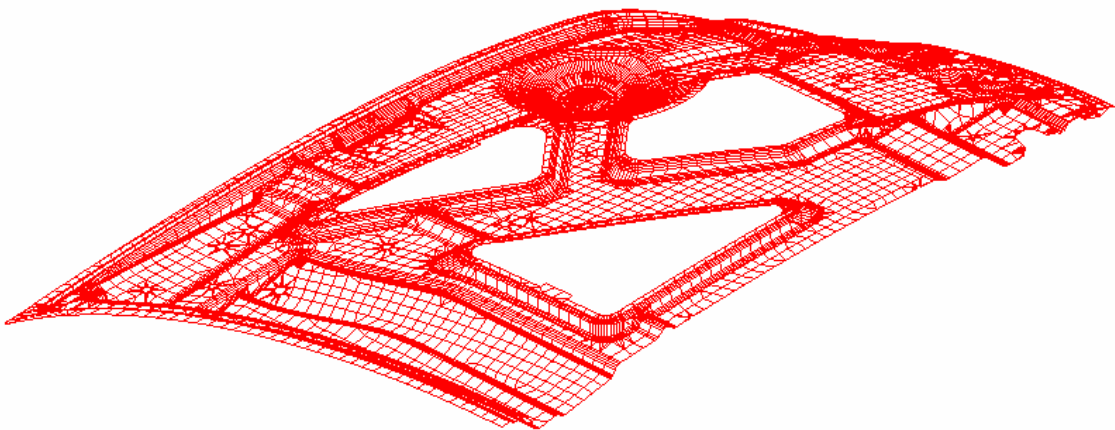

Figure 10 The model after meshing
10. The generated mesh is highlighted in white. Click **Yes** button to accept the mesh. Compare the mesh with Figure 10.